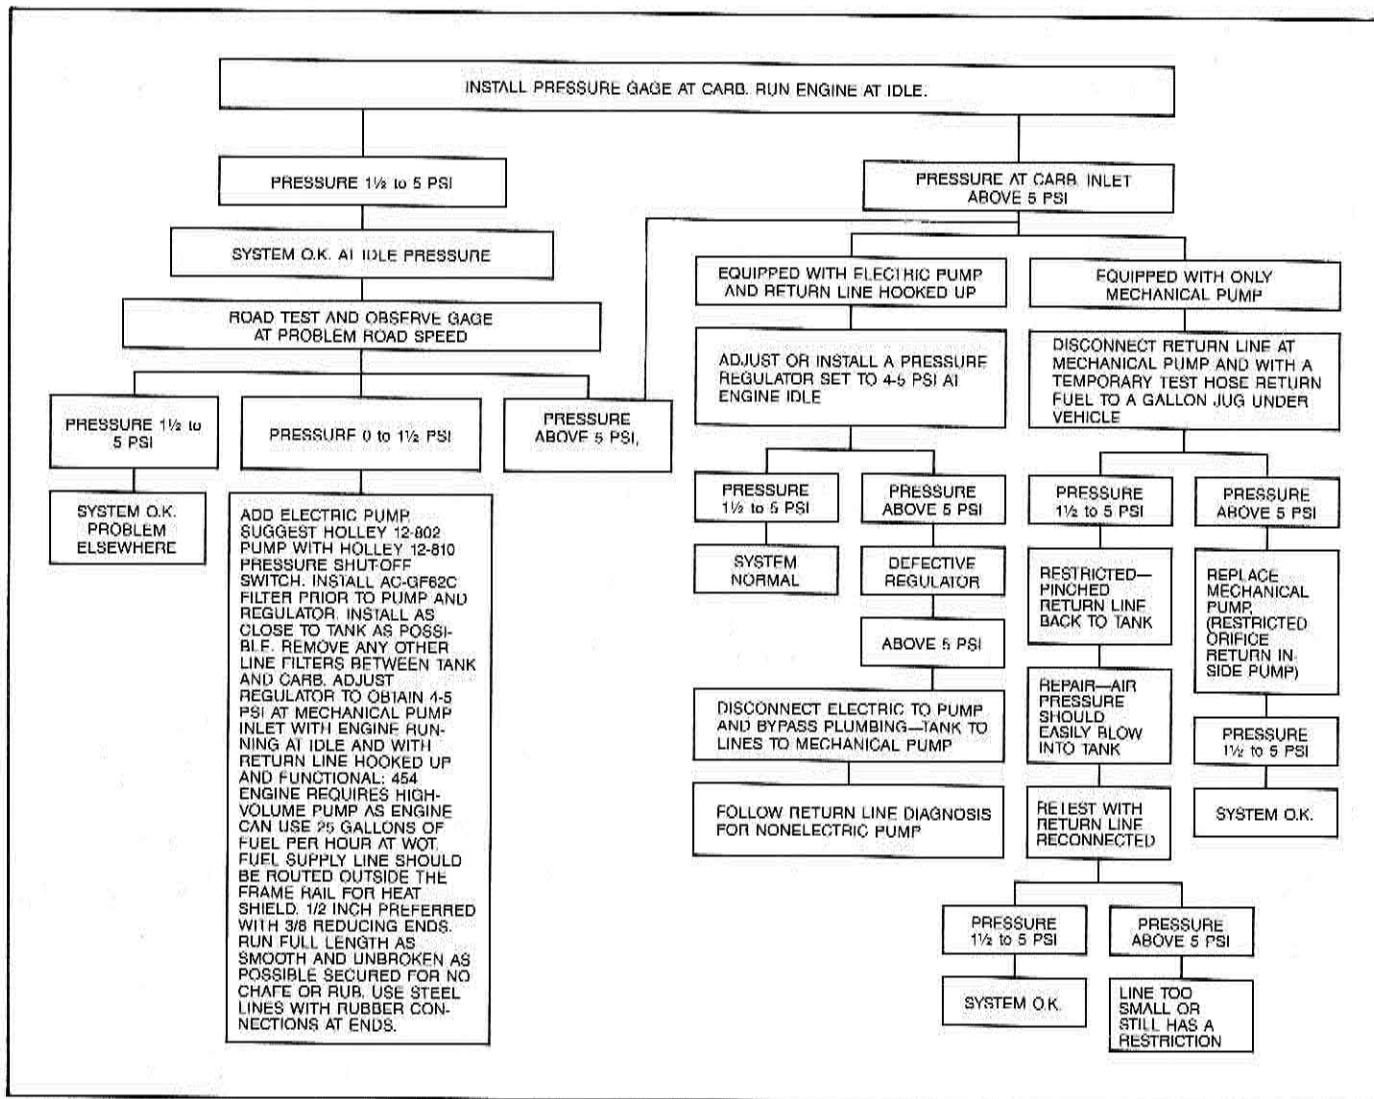

Figure A7-7-7 — Pressurized Fuel System Diagnosis Chart
- The fuel requirements for the 454 engine at wide-open throttle are 25 gallons per hour at 2 PSI minimum and 3 PSI maximum. If fuel line lengths or routings create a situation where this cannot be met, an electric pump should be added at the fuel tank to supply fuel to the mechanical pump on the engine. Pressure in the supply line will further reduce the chance of bubbles forming versus a negative pressure situation with a mechanical pump only. (See Pressurized Fuel System Diagnosis Chart in Figure A7-7-7.)